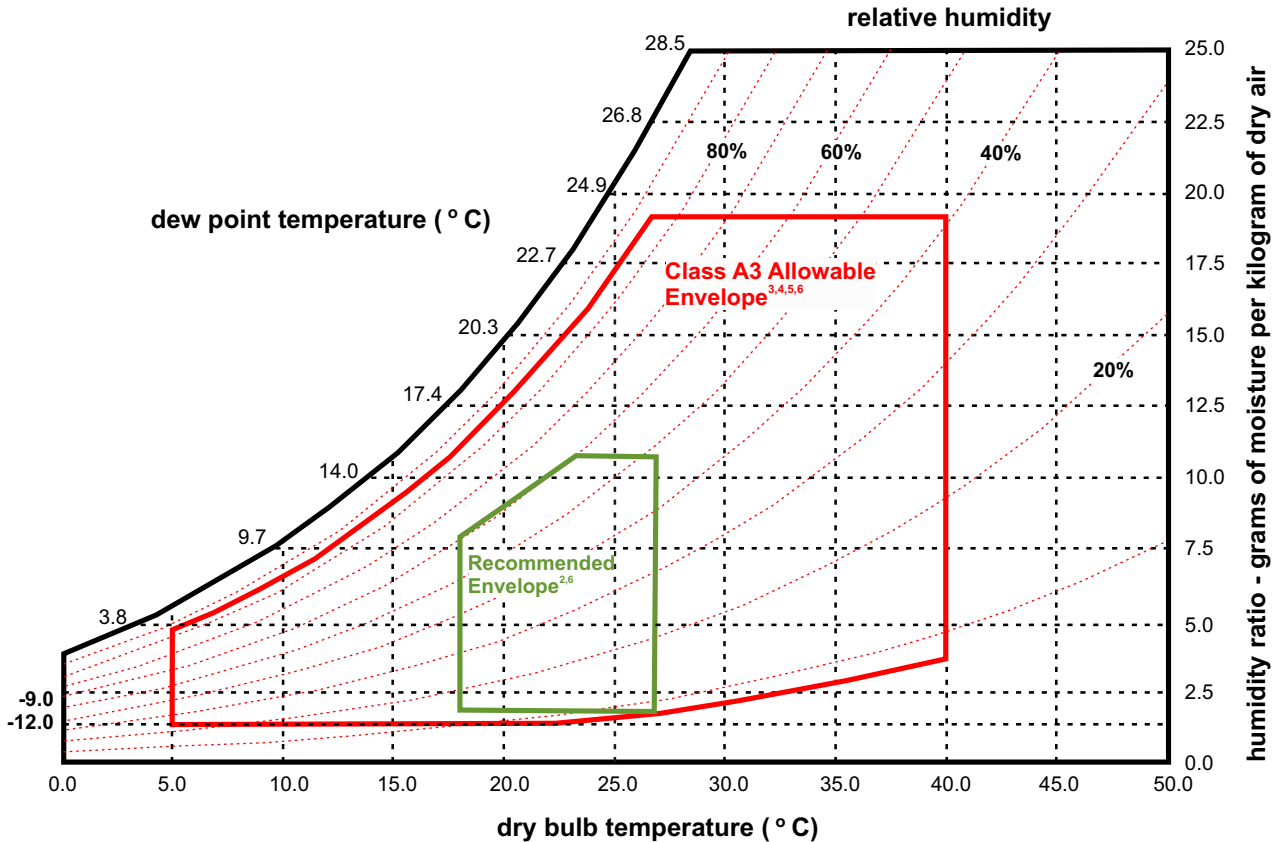

Figure 1. Environmental operating specifications - line graph format
4. The minimum humidity level is the larger absolute humidity of the -12°C (10.4°F) dew point and the 8% relative humidity. These intersect at approximately 25°C (77°F). Below this intersection the dew point (-12°C) represents the minimum moisture level, while above it, the relative humidity (8%) is the minimum. See Figure 1 on page 18 for a graphical explanation of the envelope.
Figure 1 on page 18 shows the environmental specifications in **line graph** format.